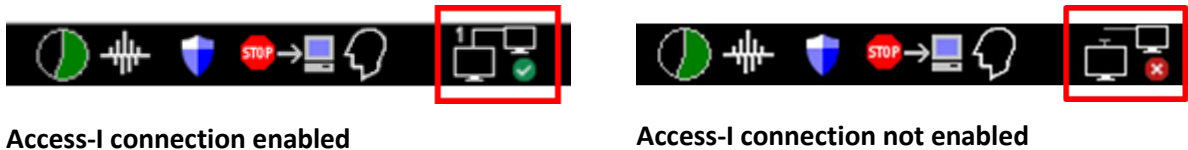

Figure 4: Access-I connection on MR Console
3. In the MR Console taskbar, ensure that Access-I is connected by checking for a green checkmark in the Access-I icon. If there is a red X, click the icon once to enable the connection (*Figure 4*).